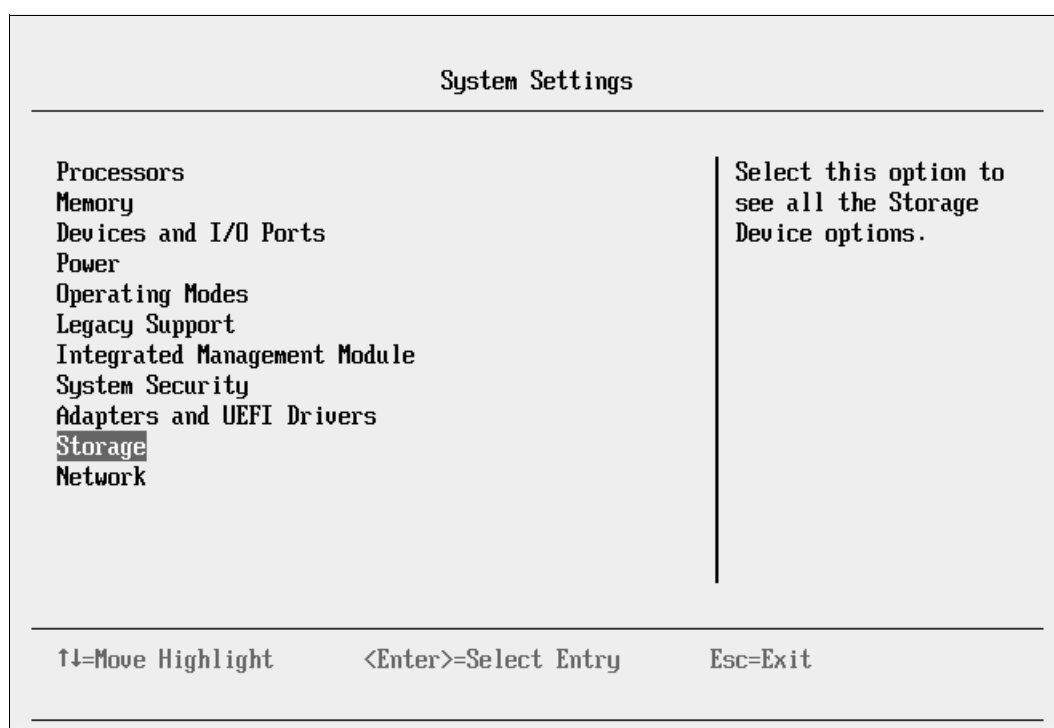

Figure 9-151 System Settings panel
2. In the System Settings panel (Figure 9-151), select **Storage**.